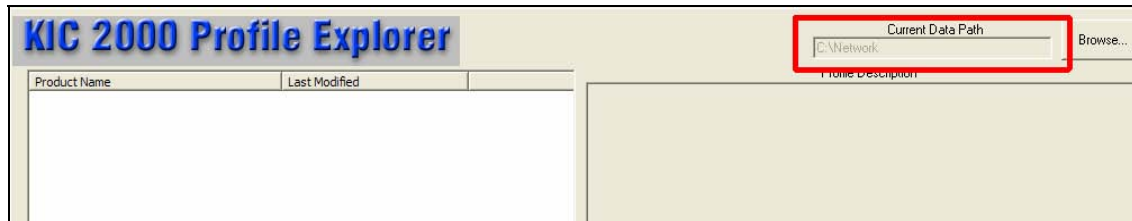

Figure 187
7. With the *KIC* software open, go into *Profile Explorer*. You should now see the new data path directory displayed in the upper right hand corner of the screen. See Figure 187.